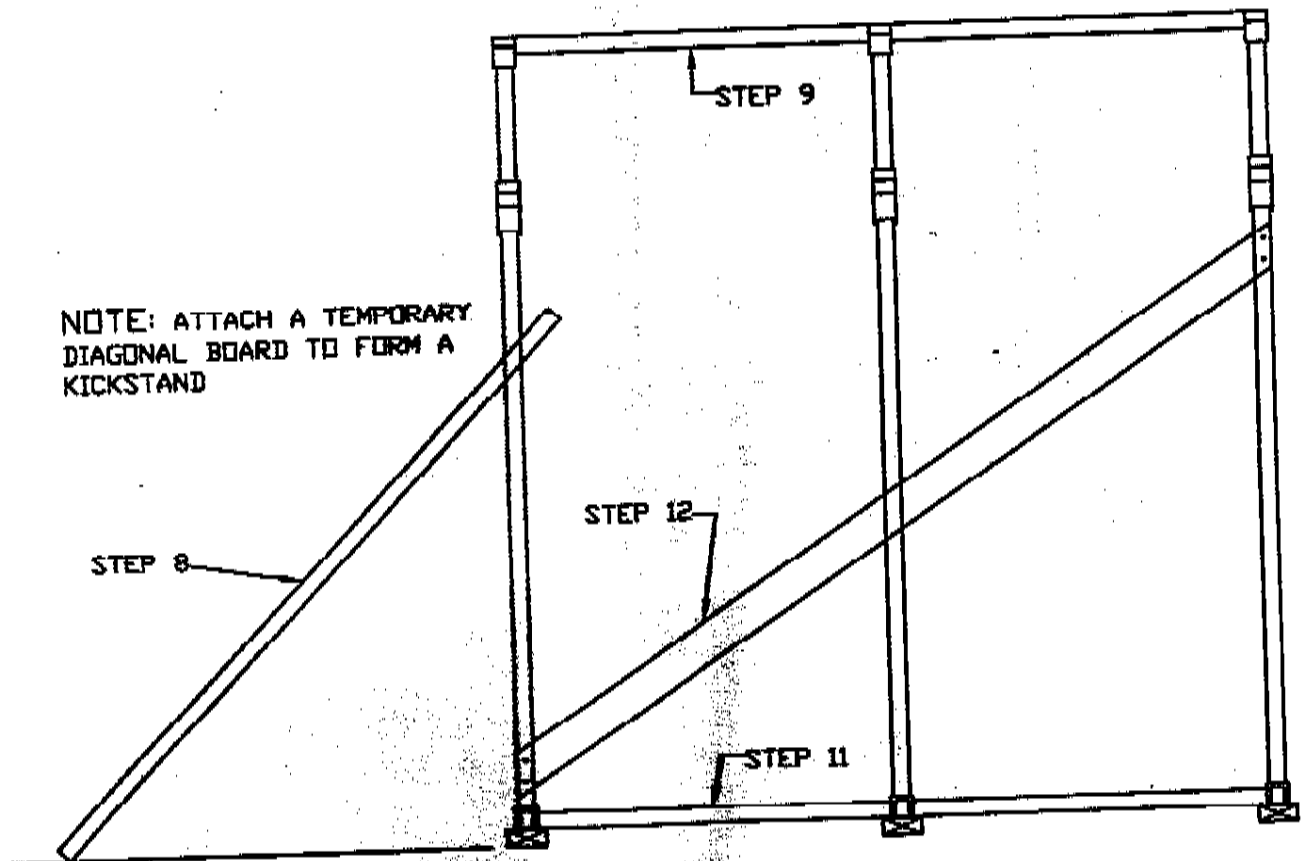

FIG 1-4
11. Attach base horizontal boards and measure to ensure the enclosure is square. Do this by measuring diagonally from corner to corner. Adjust until both diagonal measurements are equal within 1/8 of an inch. Fig 1-4